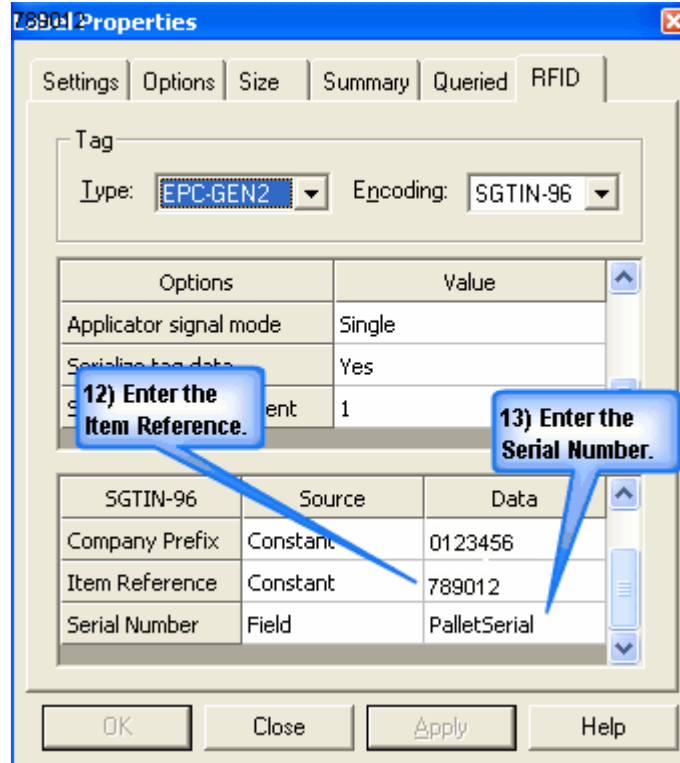

Figure 4
11. Scroll down in the upper dialog box to enter the next set of values. Figure 4.